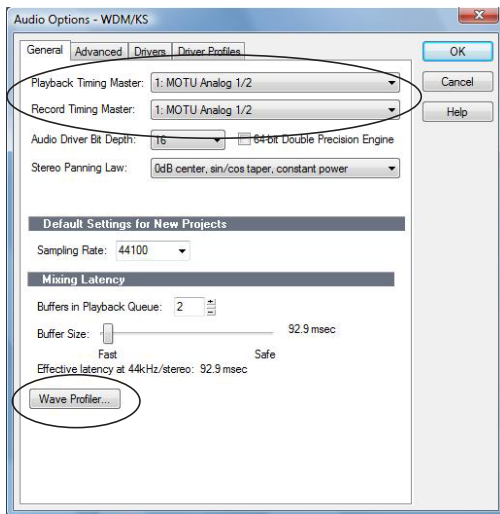

Figure 8-4: Make sure you have chosen a Traveler-mk3 input and output for the playback and recording timing master settings.
- 2 Choose an *Traveler-mk3* input and output for recording and playback timing as shown below in Figure 8-4. It doesn't matter which input or output you choose.